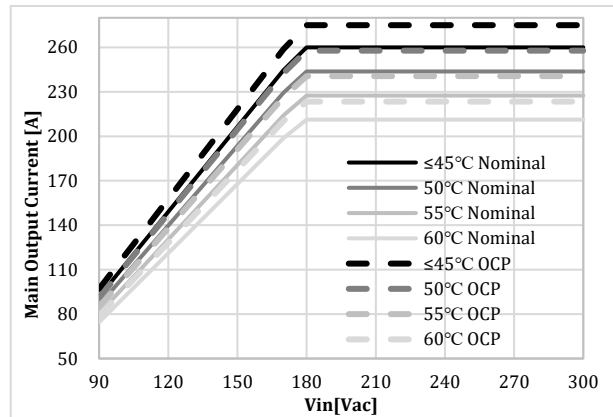

Figure 20. Derating on  $V_1$  vs  $T_a$  &  $V_{in}$
4) See Figure 20 for linear derating  $> 45^\circ\text{C}$
The main output current limitation level  $I_{V1\ lim}$  will decrease if the ambient (inlet) temperature increases beyond 45 °C (see *Figure 20*).